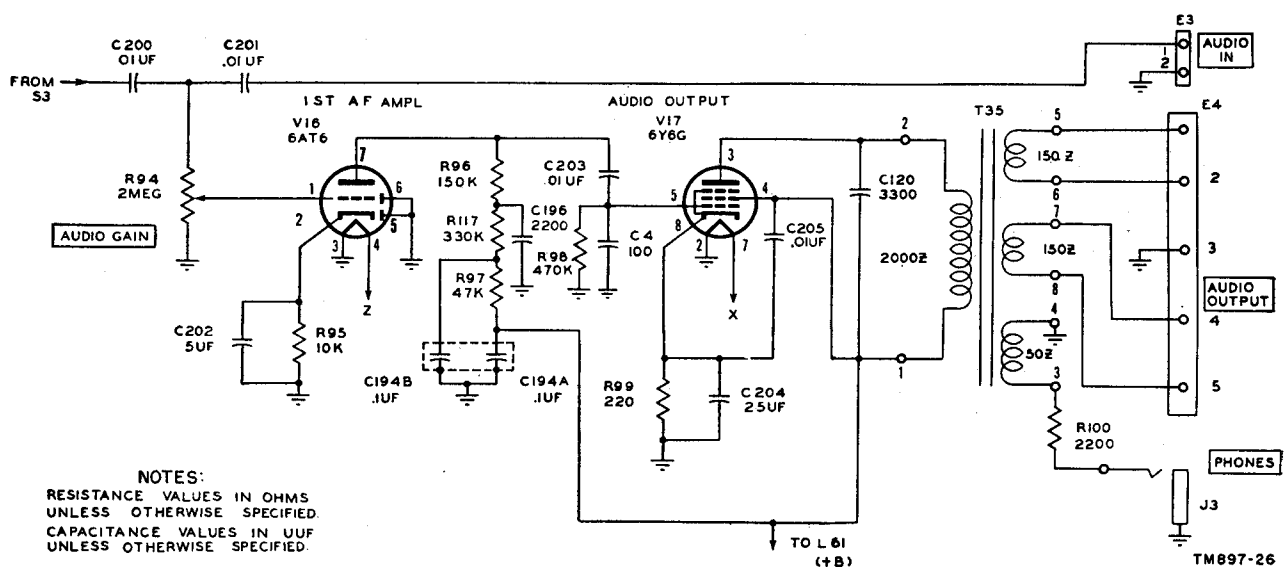

Figure 27. Radio Receiver R-274/FRR, functional diagram of the audio stages.
plates are grounded and not used. The simplified circuit diagram is given in figure 27.
a. The a-f amplifier (V17) is capable of providing two watts of undistorted audio output. The simplified circuit is shown in figure 27.